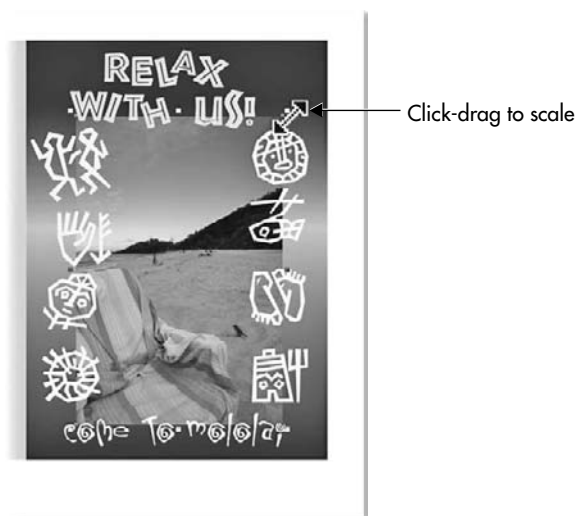

FIGURE 26-5 Scale the imported image as you place it in the design.
3. Your cursor is loaded with the image now, and it’s much larger than the place for it within the layout, so you’ll scale the image as you place it. First, click an insertion point to the lower right of the primitive couple dancing (about 10 o’clock in the design), and then while holding the left mouse button, drag down to about the “a” in “Mololai.” You’ve scaled the image to more or less fit on the front cover, as shown in Figure 26-5. With the Pick Tool, move the image if it’s not placed to suit your artistic eye.